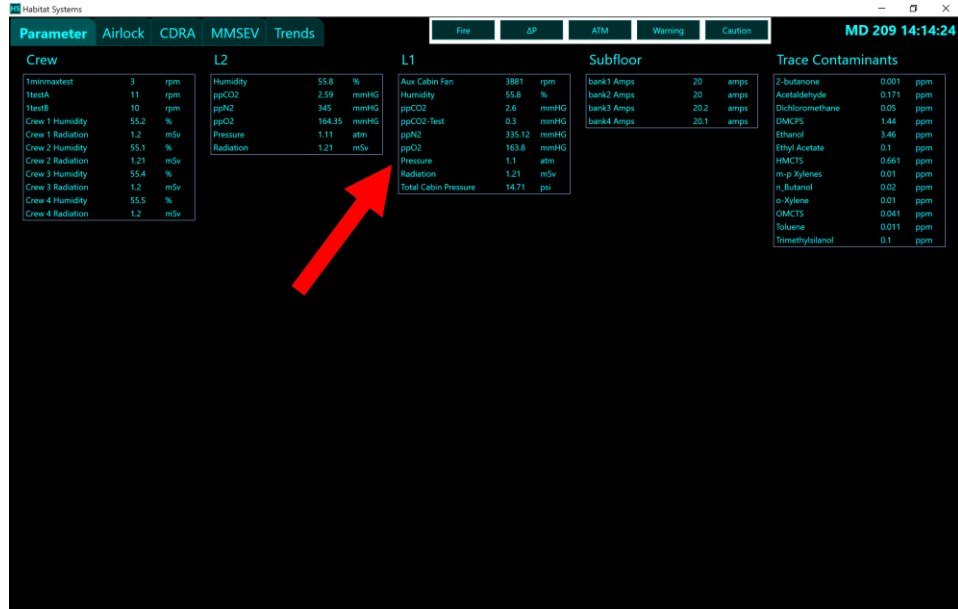

Figure 3: HSS Parameter display
2.7 Go to HSS Parameters tab and verify airflow rate change (see Figure 3).
- 8.4 Go to HSS Parameters tab and verify airflow rate change (see Figure 3).